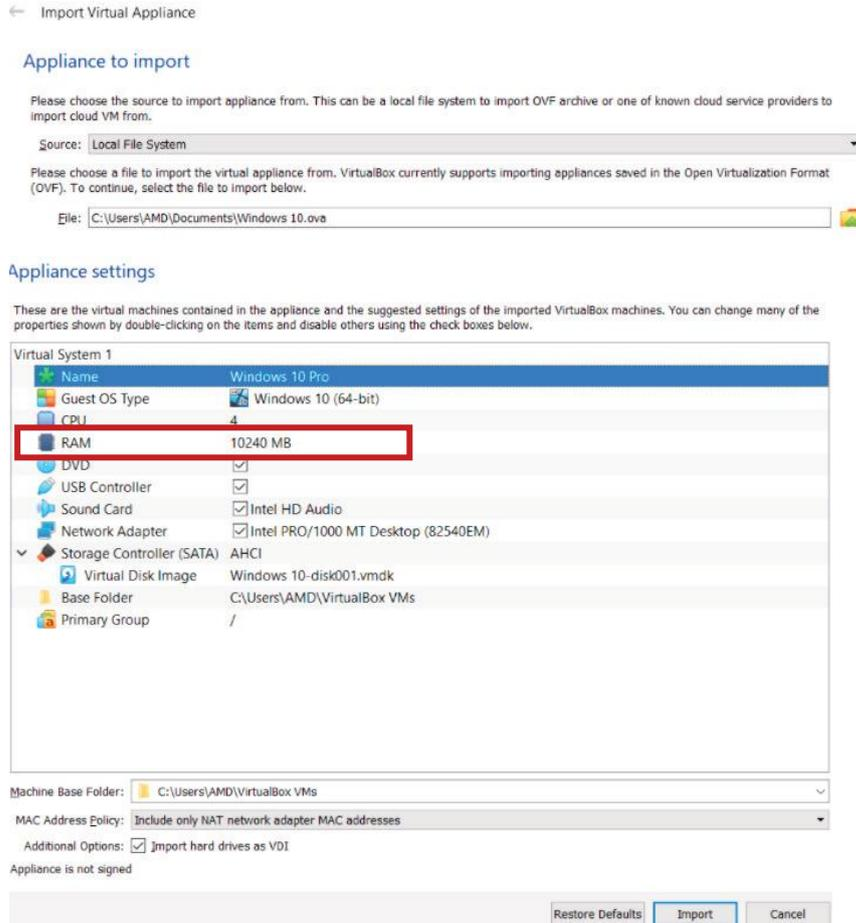

Figure 15. Import Image File
- d) To import, select the Image File and click on 'Next'. How much space (memory) should be allocated to the program on the local PC from the 'Device Settings' section. Recommended memory is at least 4GB. The selected options should not be changed. (See Figure 15).